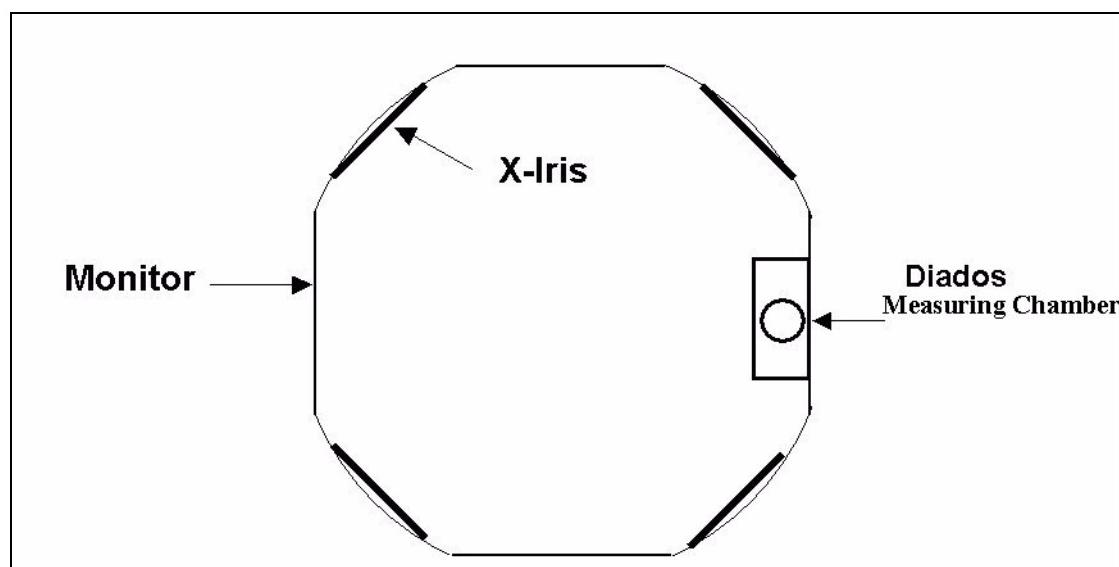

Fig. 4
- Place the dose chamber on the table so that the chamber is on the right or left side of the monitor (Fig. 4).